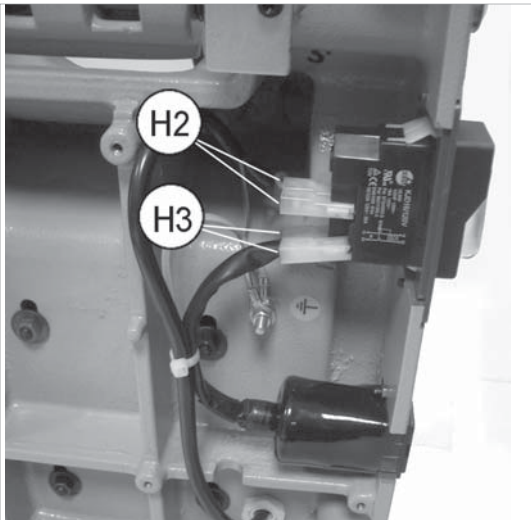

Fig. 45
- 2) Detach the 4 connectors (H2) and (H3) paying special attention to their position (Fig. 45).